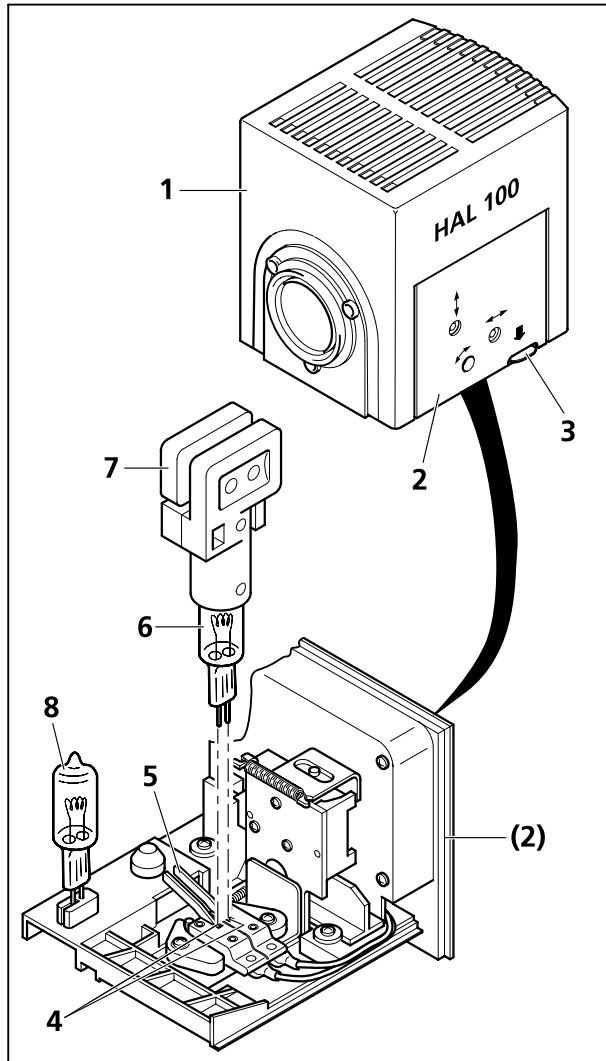

Fig. 3-25 Changing a halogen lamp
It is not necessary to remove the lamp case from the stand when replacing the halogen lamp. Do **not** store the included tools for the halogen lamp (Fig. 3-25/7) in the lamp case when the halogen lamp is in operation. The replacement lamp (Fig. 3-25/8) can remain in the lamp case.
- Press down the release button (Fig. 3-25/3) of halogen lamp HAL 100 (Fig. 3-25/1). Pull the lamp carrier (Fig. 3-25/2) out completely and put it aside.
- Press down both spring levers (Fig. 3-25/5) and pull out the old halogen lamp (Fig. 3-25/6) in an upward motion.
- Press down both spring levers, insert the new lamp into the lamp cap (Fig. 3-25/4) and release the spring levers. Use only the included special tools (Fig. 3-25/7) when holding/grabbing the halogen lamp. Traces of skin grease on the halogen lamp can impair its life span.